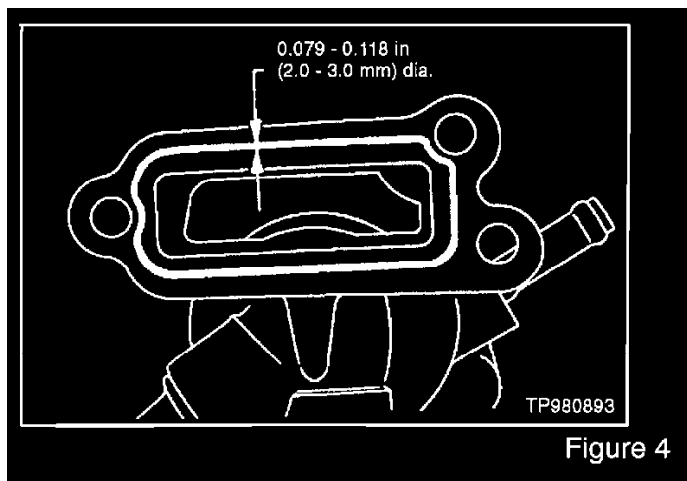

Figure 4
- b. Apply a continuous bead of RTV sealant to the housing as shown in Figure 4.